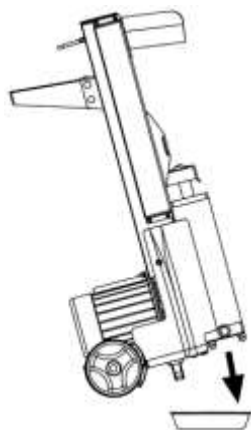

Fig. 3
2. Unscrew the oil drain bolt (R) and set aside.
3. Place an 4 litre container below the oil outlet, then tip the front end up to allow the hydraulic oil to drain out. You may need to lift the front end and place a support under it (Fig. 3).